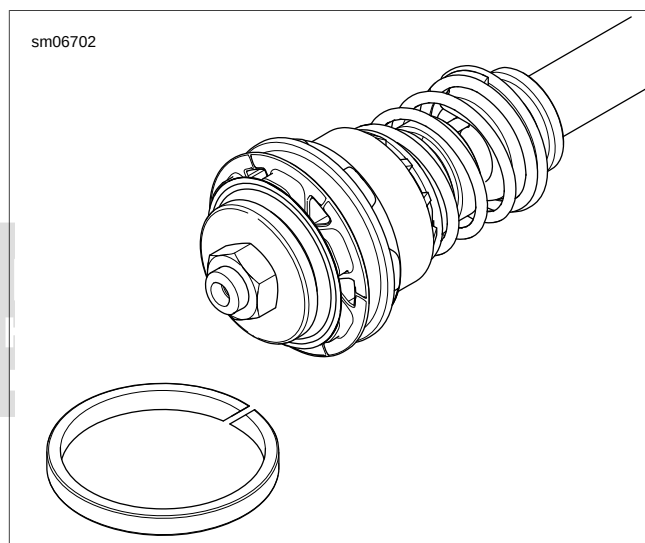

Figure 2-154. Fork Rod Piston and Ring
5. See Figure 2-154. Replace the fork piston ring.